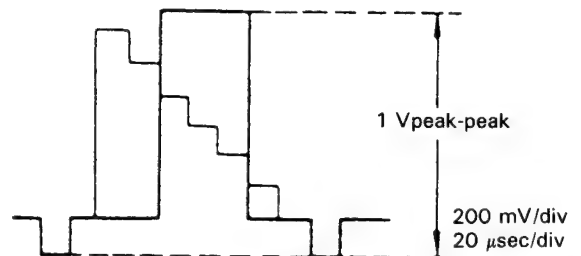

Figure 2-3.
4. Connect a frequency counter to ⑤ Pin of IC201 and adjust R216 (FM carrier) so that the reading becomes 3.8 MHz.
6. Connect the oscilloscope (external trigger: TP2201) to video output (75  $\Omega$  terminal). When the auto record and playback level is less than 1.0Vp-p, turn R222 (deviation) counterclockwise; when it is more than 1.0 Vp-p, turn R222 clockwise. Repeat this until the reading becomes  $1.00 \pm 0.05$  Vp-p. (Refer to Fig. 2-3)
7. Unplug the standard colour bar and input a pin plug and short circuit the input. Connect a frequency counter to ⑤ Pin of IC201 and confirm that the reading is 3.8 MHz.